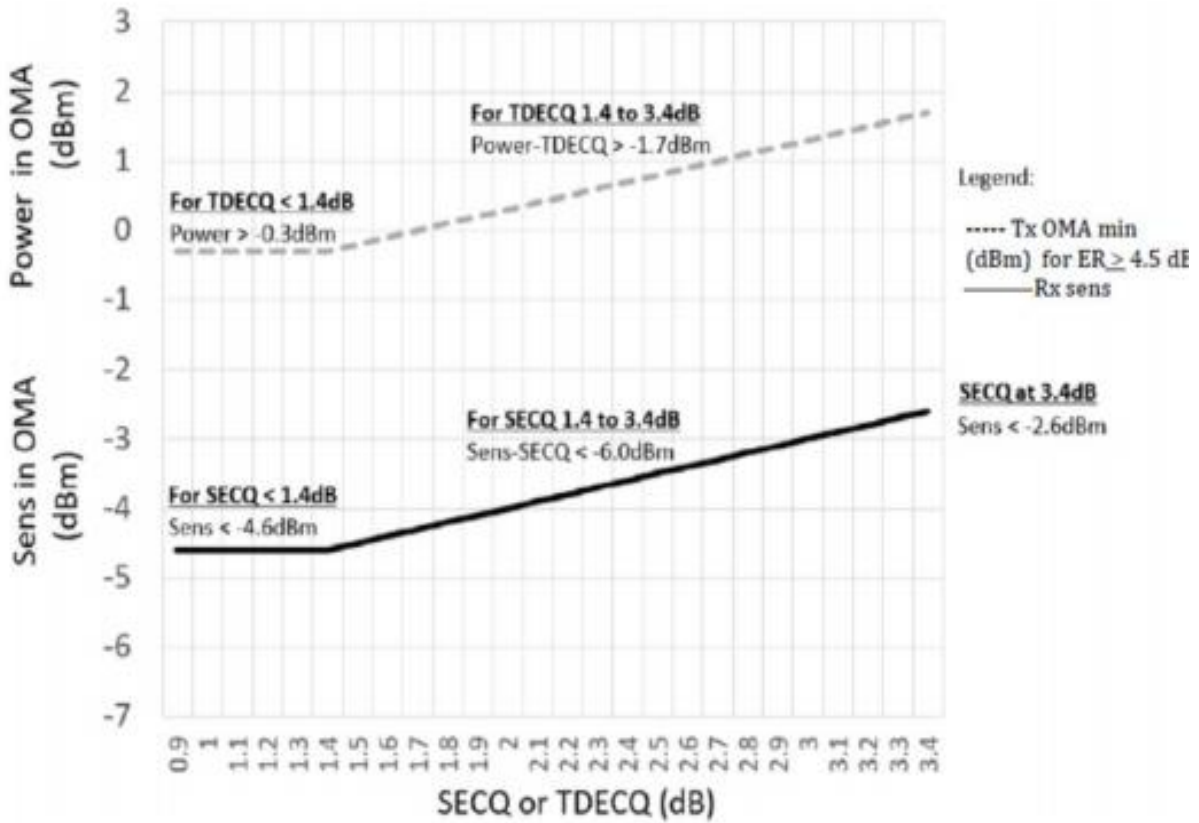

Figure 4. Illustration of Receiver Sensitivity Mask for 400G-FR4
6. Receiver sensitivity (OMA_{outer}), each lane (max) is informative and is defined for a transmitter with a value of SECQ up to 3.9 dB. It should meet Equation (1), which is illustrated in Figure 4.